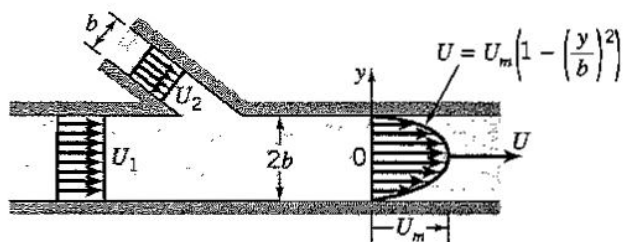

Figure P3.27
3.27 A constant density fluid flows steadily through a duct of width W , as shown in Figure P3.27. Find U_m in terms of U_1 and U_2 . What is the momentum flux passing through the exit of the duct?